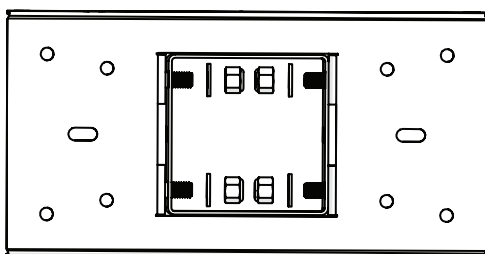

Fig. 1-3
- Slide a washer over the carriage bolt from the inside of the top of the bracket/post as shown in Fig 1-3 below.